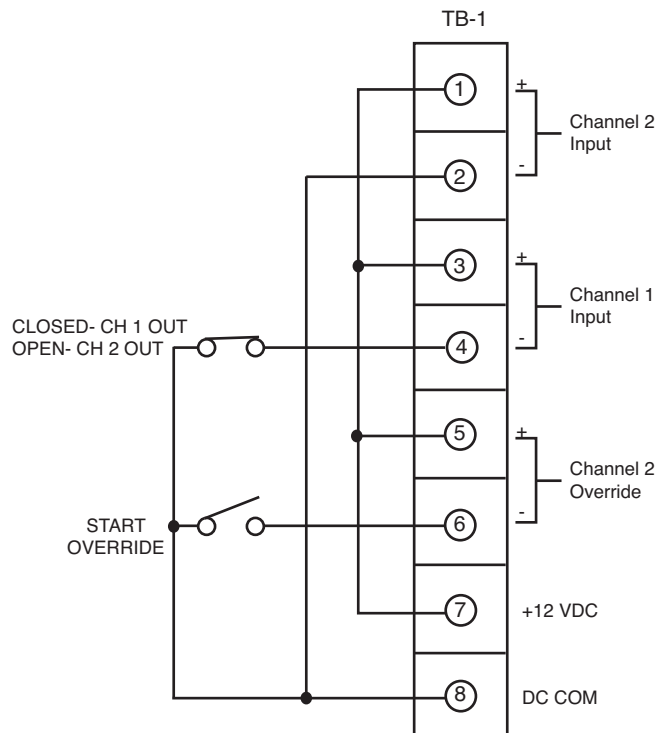

Figure 17a
- 1. Refer to Figures 17a through 20a for various switching devices which can be used.
- 9. Double check all input wiring and switching circuit connection to insure proper wiring and hook-up. Refer to figures 17a through 20a.